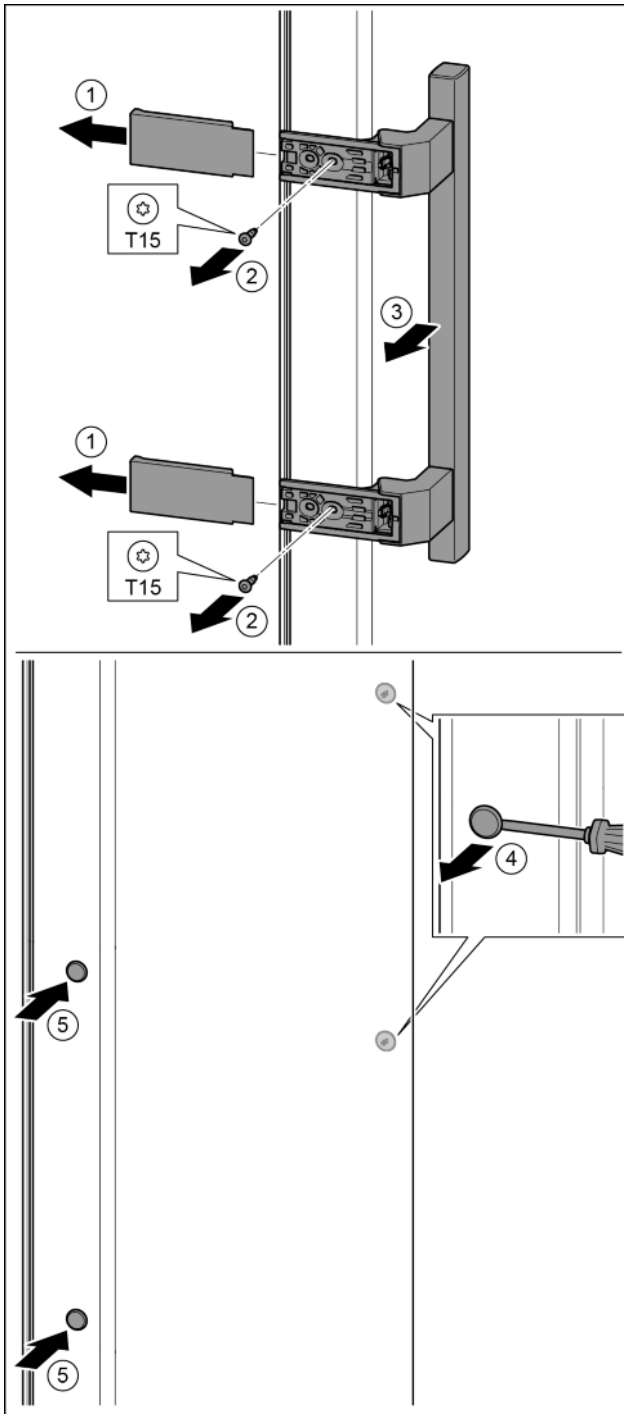

Fig. 20
- ▶ Pull off the cover. Fig. 20 (1)
- ▶ Remove the screws with the T15 screwdriver. Fig. 20 (2)
- ▶ Remove the handle. Fig. 20 (3)
- ▶ Carefully lift up the side plugs with a slotted screwdriver and pull them out. Fig. 20 (4)
- ▶ Insert the plugs again on the other side. Fig. 20 (5)